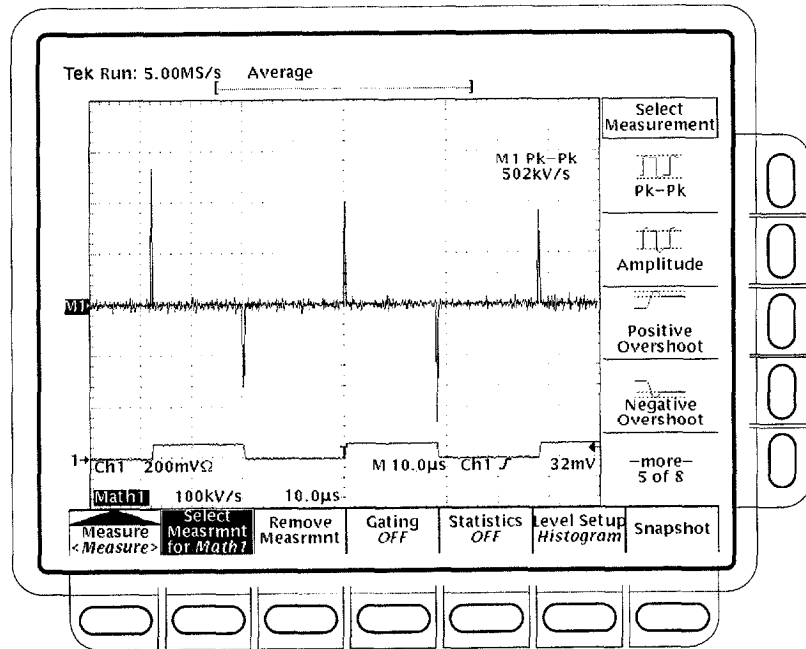

Figure 3-106: Peak-Peak Amplitude Measurement of a Derivative Waveform
4. Select up to four measurements in the side menu. (See Figure 3-106.)